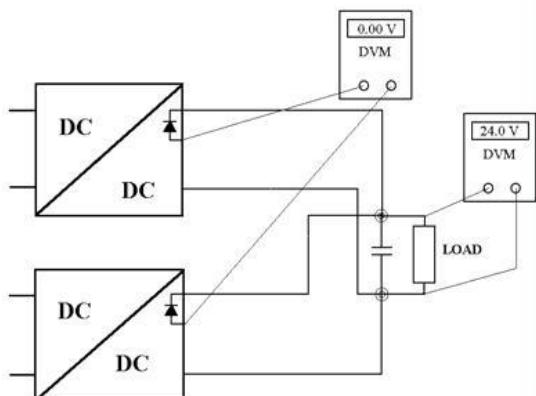

Figure 6. Adjusting output voltage measure at +Test or pin 8 on the H15 connector.
2. Measure the voltage at the load. Connect voltmeters as showed in *Figure 6*. If you have only access to one voltmeter you must move it around to make the adjustments.
To find the unit with the lowest output voltage you can measure the voltage difference before the series diode, as in *Figure 6*.
- i. Decrease the output voltage by turning the potentiometer marked "V.ADJ" counter clockwise on the unit with the highest output voltage until you reach the desired voltage at the load or until the output voltage does not decrease anymore (as the other units supply all current). To find the unit with the highest output voltage, measure the voltage difference before the series diode, as in *Figure 6*.